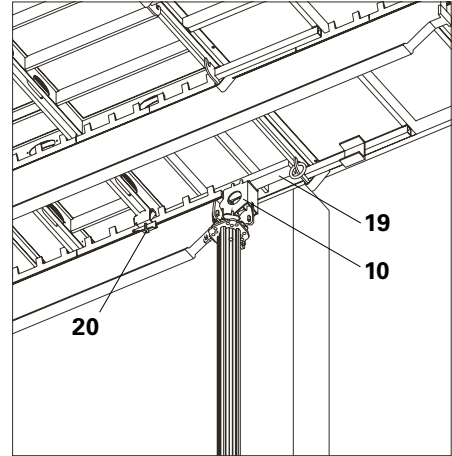

Fig. 12a
- View from below: (Fig. 12a)
- End support SSL (10)
- Timber supplied on site 70/40 x 700 mm (19)
- Panel wedge clip SPKK (20)